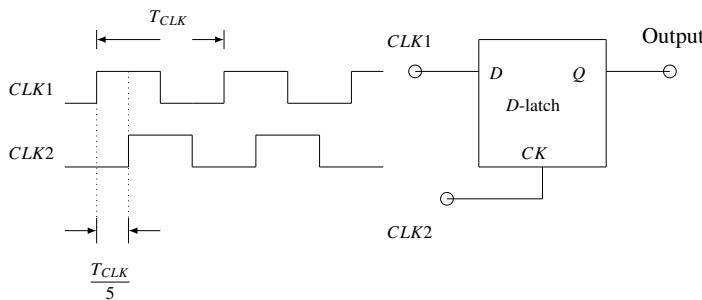

Fig. 5.14
14. Consider the D -Latch shown in Fig. 5.14, which is transparent when its clock input CK is high and has zero propagation delay. In the figure, the clock signal $CLK1$ has